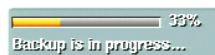

Figure 88. Backup Status Indicators
- d. If the “Configuration data is changed.” dialog box is displayed, press the left/right arrow buttons ◀ ▶ on the front panel or remote control to highlight OK, and then press ENTER. Using the mouse, click OK. The system returns to the Live View mode. The backup status indicator is displayed and two messages appear (refer to Figure 88).